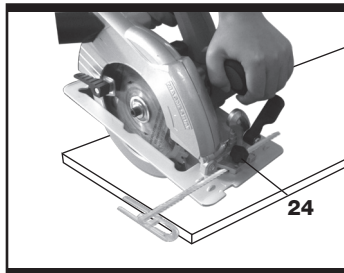

Fig. 6
For a 45° bevel cut, use the 45° guide mark to align with your parallel guide scale. Securely clamp the parallel guide (20) (See Fig. 6). Always make a trial cut to check the setting.